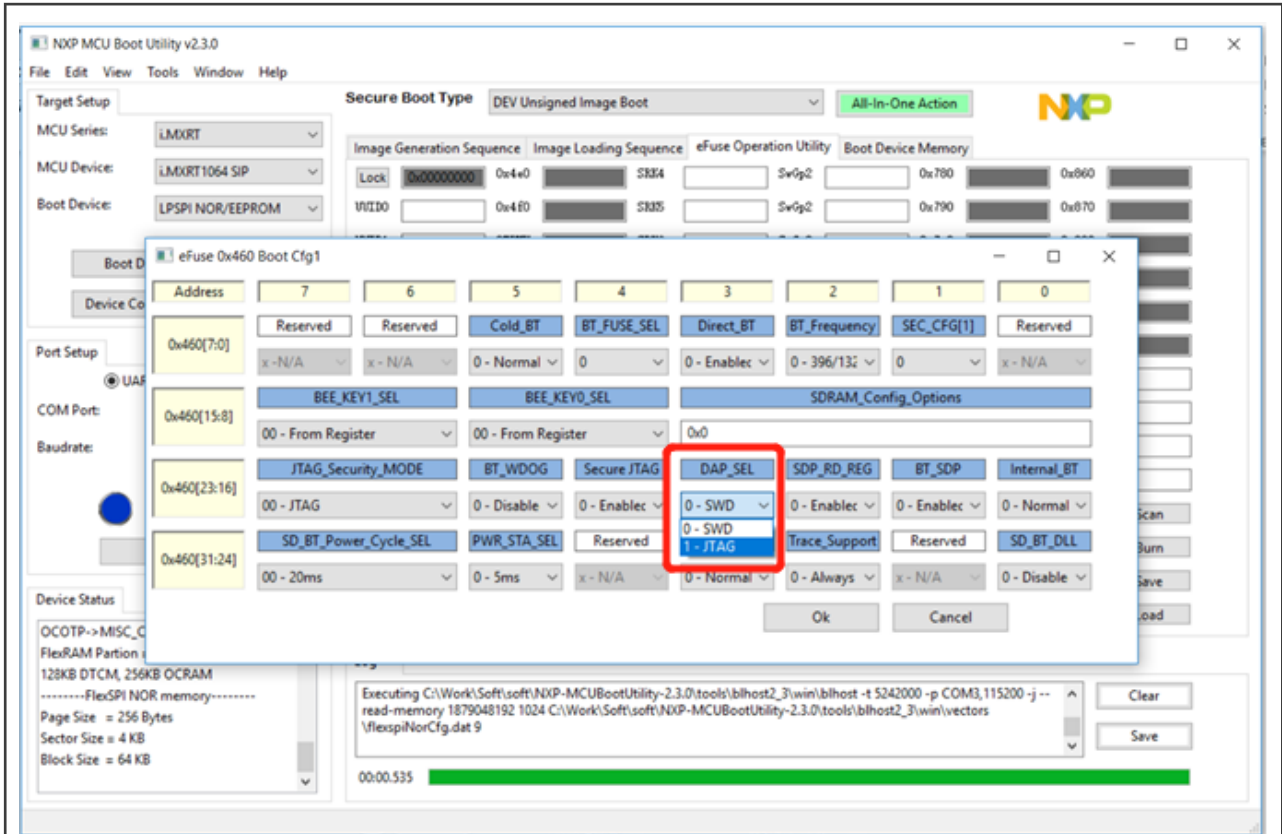

Figure 4. NXP-MCUBootUtility-2.3.0 in eFuse to enable JTAG
2. Apply the NXP-MCUBootUtility-2.3.0 to burn one bit, `0x460 Boot Cfg1`, in eFuse to **enable JTAG**. It can't go back to SWD after eFuse burn. Figure 4 shows the setup information.